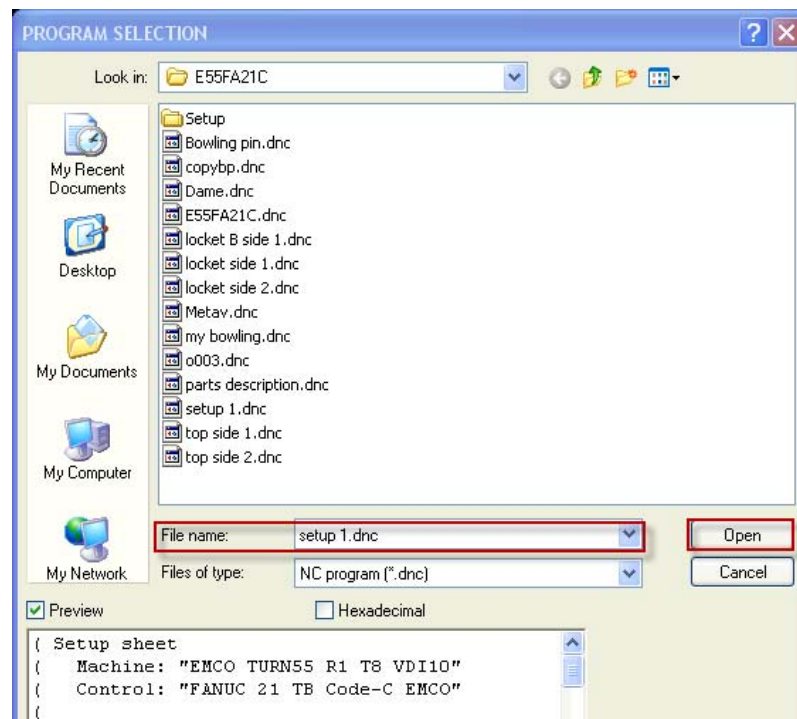

Fig. 2.6: Inserting the File name
2. Write the File name: The file name is “Setup1”, then click “Open” as shown in Fig. 2.6